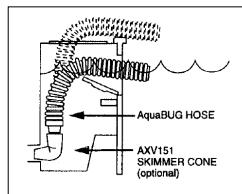

Figure 7
**Figure 7** shows the proper way to connect the hose into a skimmer that has a back or side suction port. In this case, the standard AEXV093BP cannot be used because of the skimmer configuration, and the optional AEXV151 90-degree Elbow must be purchased from your Hayward dealer.